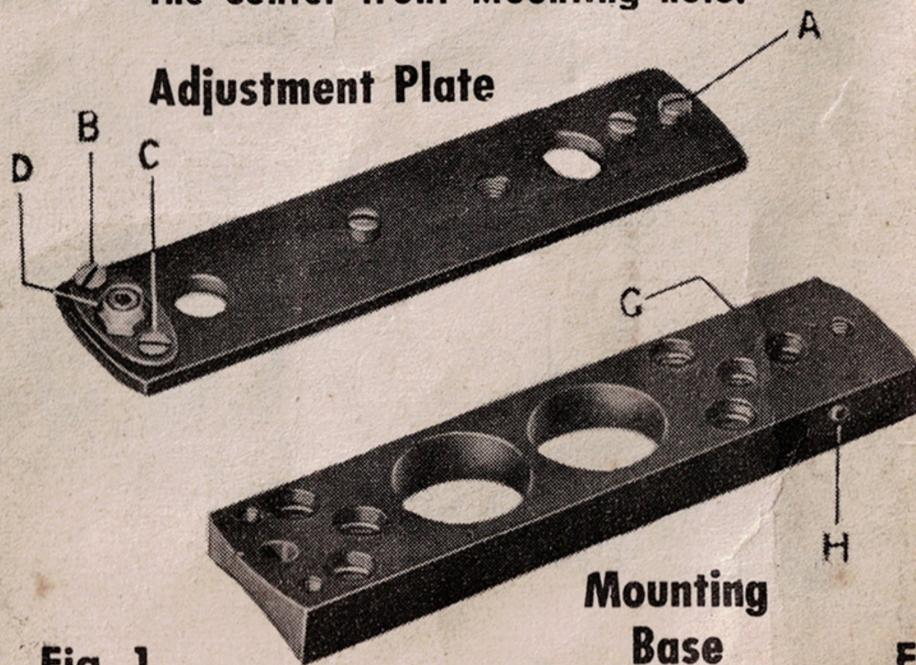

Fig. 1
2. Remove Nydar adjustment plate from mounting base by removing screws A, B & C (see figure 1).